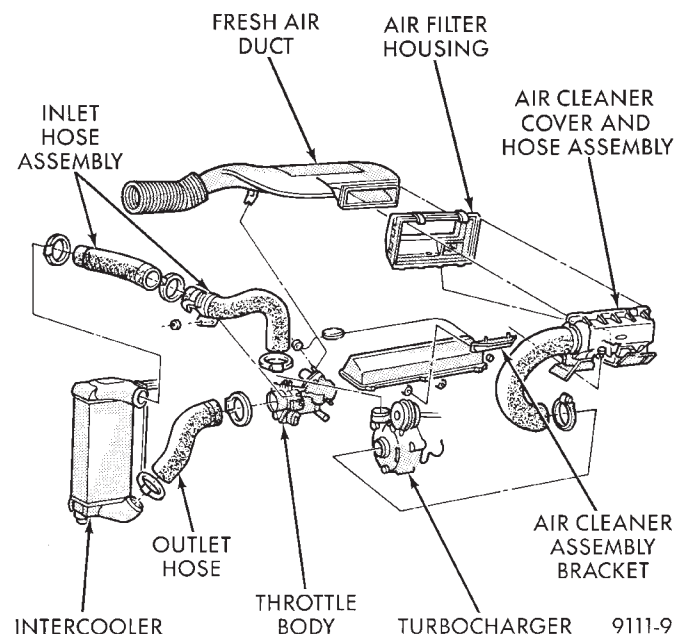
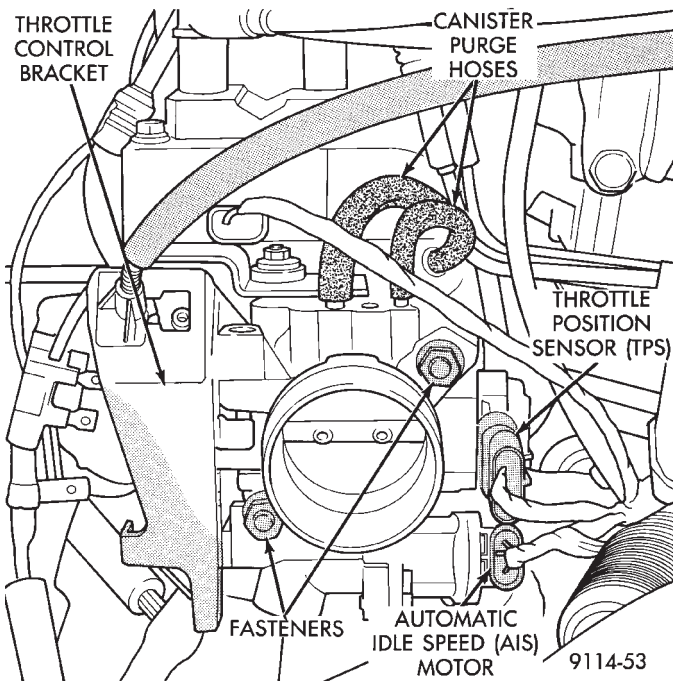

Fig. 5 Air Cleaner Assembly
Fig. 6 Throttle Body Assembly
- (1) Disconnect negative cable from battery.
- (2) Remove clamp from air hose. Remove hose (Fig. 5).
- (3) Remove accelerator cable.
- (4) Disconnect automatic idle speed (AIS) motor and throttle position sensor (TPS) electrical connectors (Fig. 6).
- (5) Disconnect vacuum hoses from throttle body.
- (6) Remove throttle body to intake manifold attaching nuts (2).
- (7) Remove throttle body and gasket.